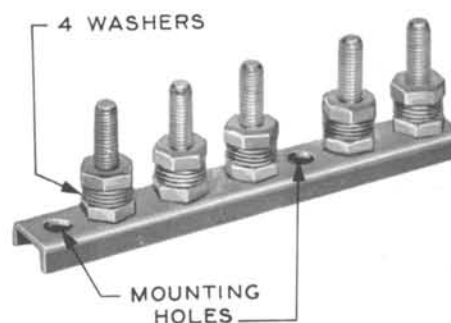

FIG. 14—TERMINAL GROUND STRIP
**5.09** The terminal ground strip is intended for use with cable terminals where it is not feasible to use the 2-, 4-, 5-, or 6-type ground strip. Attach the terminal ground strip to a wooden backboard by means of two 1 inch, No. 8 RH blued wood screws, or to metal backing with two 3/8 inch, No. 8 RH self-tapping screws (see Fig. 14).